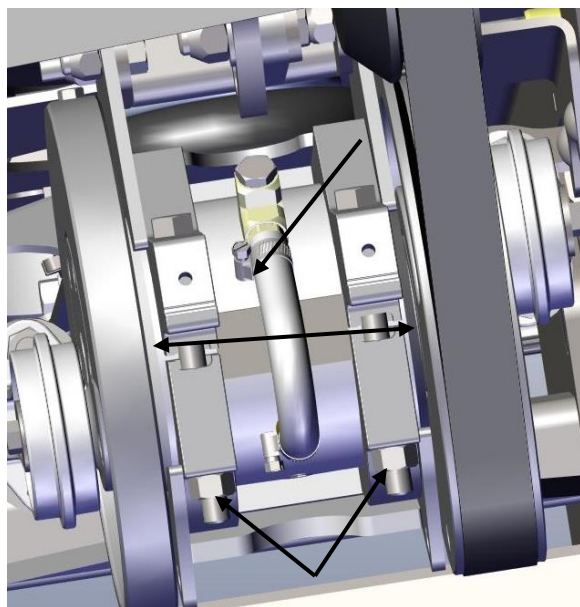

Figure 68
12. Center the bearing assembly in the drive paddle making certain that the flywheels are the same distance from the paddle. Use red Loctite #262 and tighten the bolts to 120 ft. lbs. Figure 68